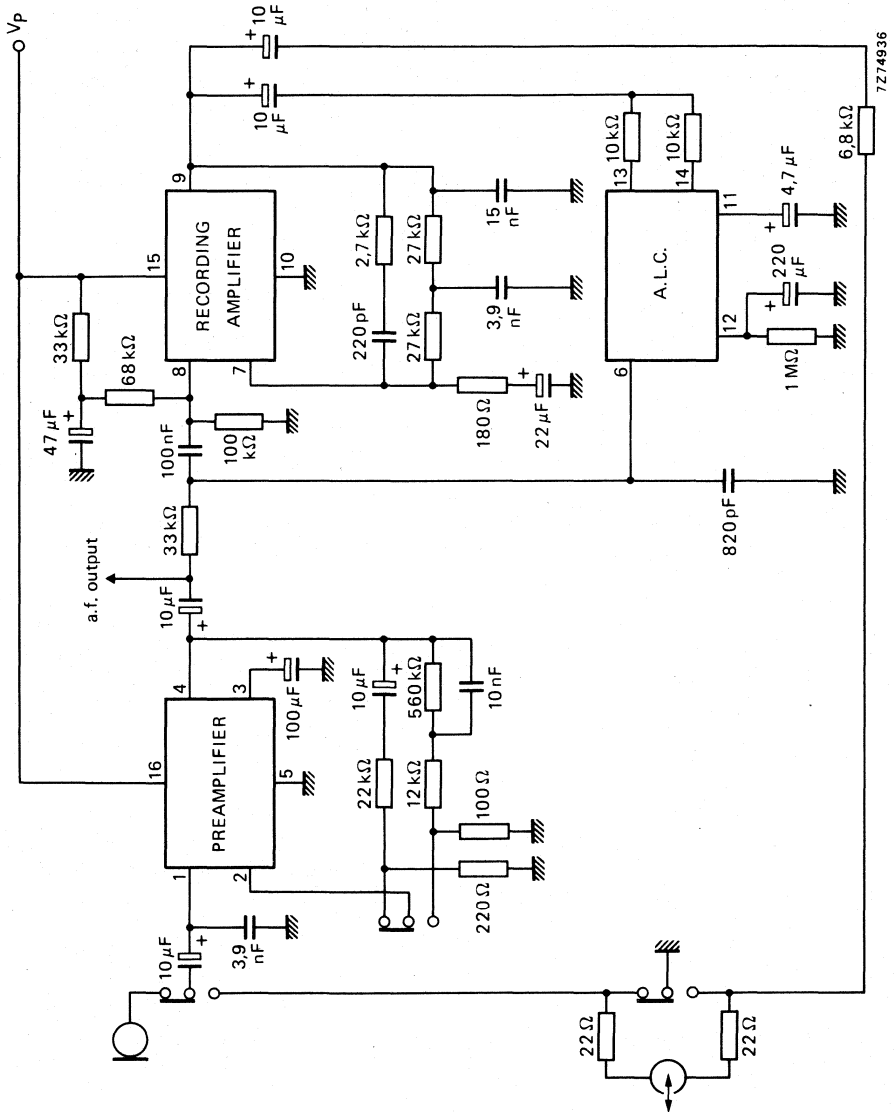

Fig. 9 Application of TDA1002A (recording position).
**Recording amplifier (Fig. 9)**